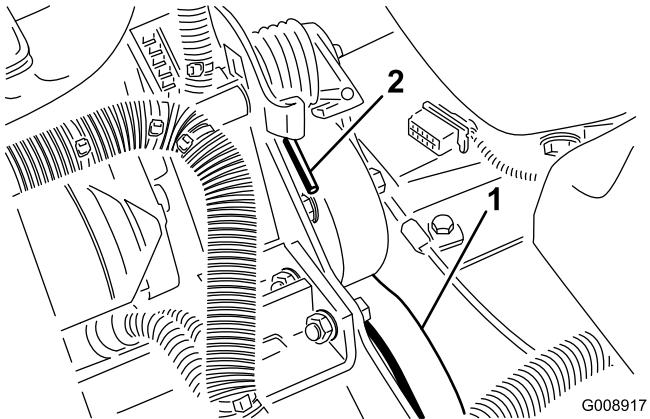

Figure 67
- Push down and forward on the spring end (Figure 67) to unhook it from the bracket and release tension on the spring.